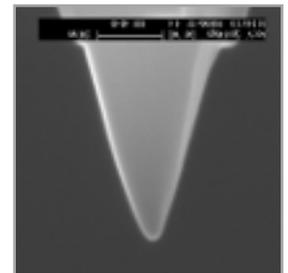

Figure 8. The KLA DuraSharp II stylus has a 40nm radius with 40° included angle.
The DuraSharp styli have a 0.04 ± 0.01µm radius with 40 ± 5° included angle, as shown in Figure 8. The standard DuraSharp has an exposure > 0.7µm and the long DuraSharp (L) has an exposure of > 3µm. The radius, angle, and exposure of these styli are individually certified, with the exact values shown on the stylus container label.